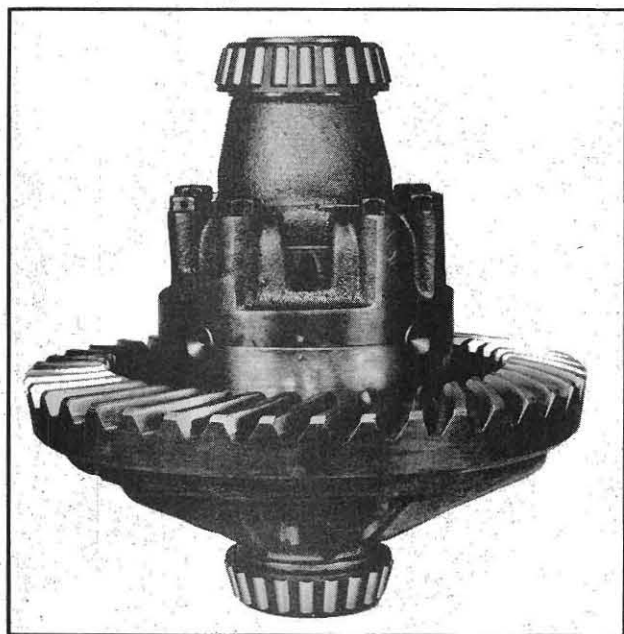

Fig. 254
1. Mark both halves of the differential case with a center punch or chisel, see Fig. 254, to insure reassembly in the same relative position.